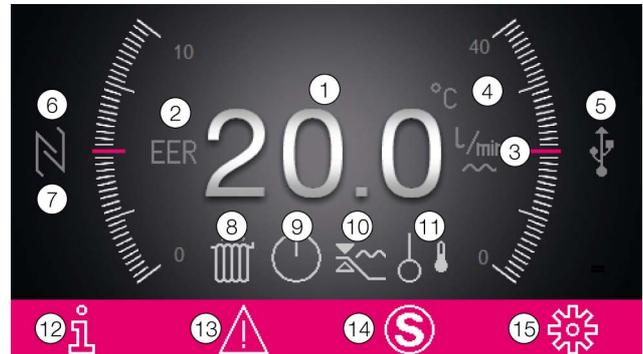

Fig. 44: Layout of the start screen
- Shut off the water flow to the customer application completely using a customer-supplied shut-off valve in the pipeline or in the end application. On the chiller display, the current volumetric flow passing through the bypass is shown to the right of the temperature reading (fig. 44, item 3).